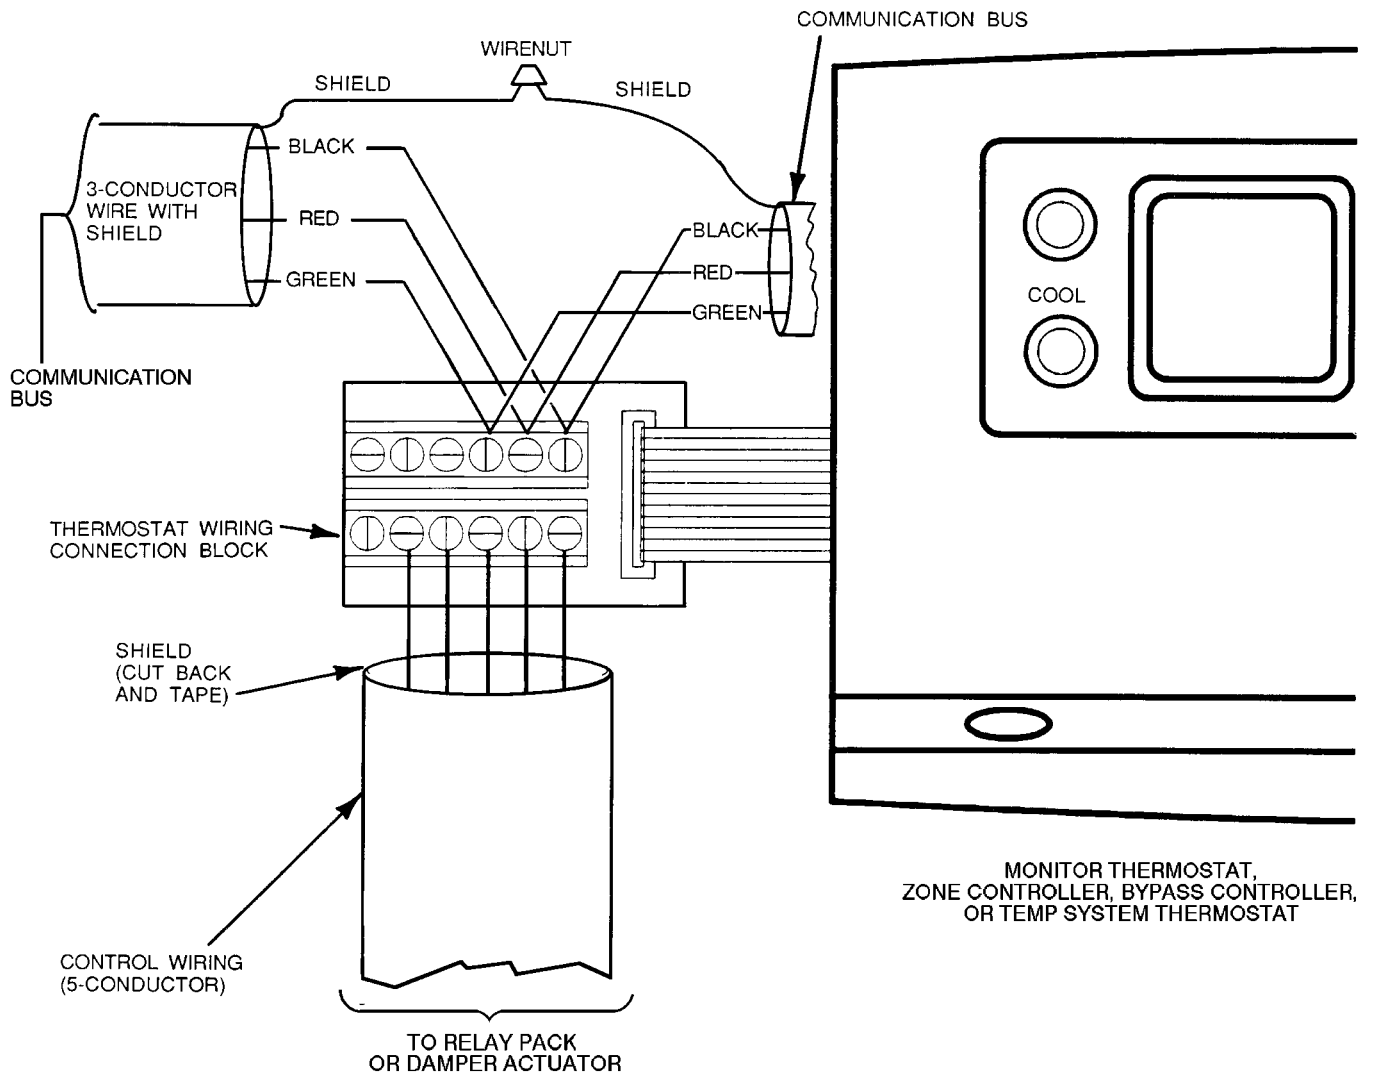

Fig. 4 — Wiring Connections (Monitor Thermostat, Zone Controller, Bypass Controller, or TEMP System Thermostat)
1. Connect the communication bus and power wiring to the wiring connection block of the thermostat. See Fig. 4 or 5.